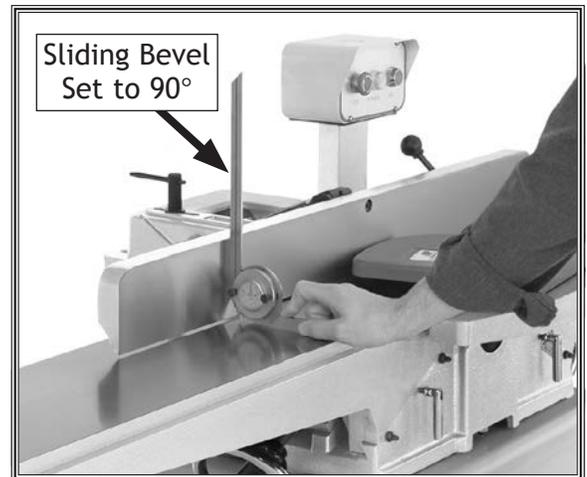

Figure 55. Example of adjusting fence to 90°.
3. Place sliding bevel set to 90° against fence and table, as shown in Figure 55.